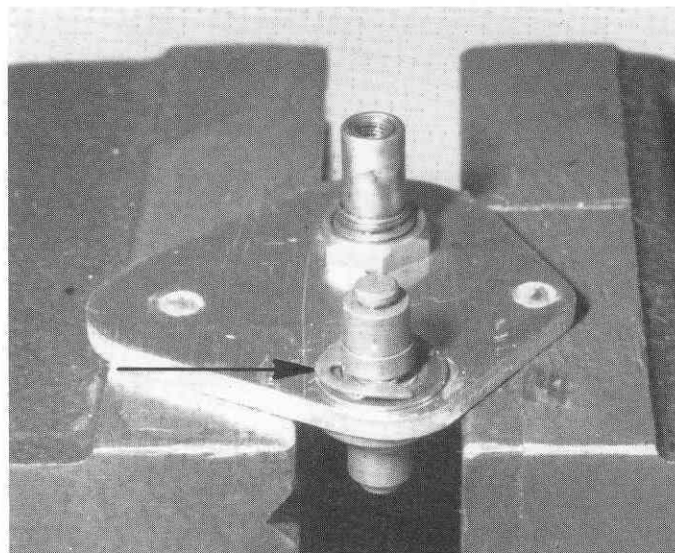

Fig. 35
□ **Fig. 35** Install the clip all the way on. Make sure that it is fully seated.